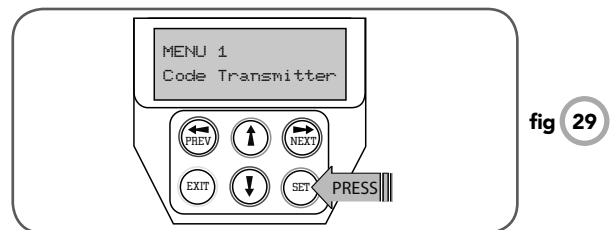

fig 29
1. Press NEXT to navigate to the Menu 1 (**Fig. 29**).